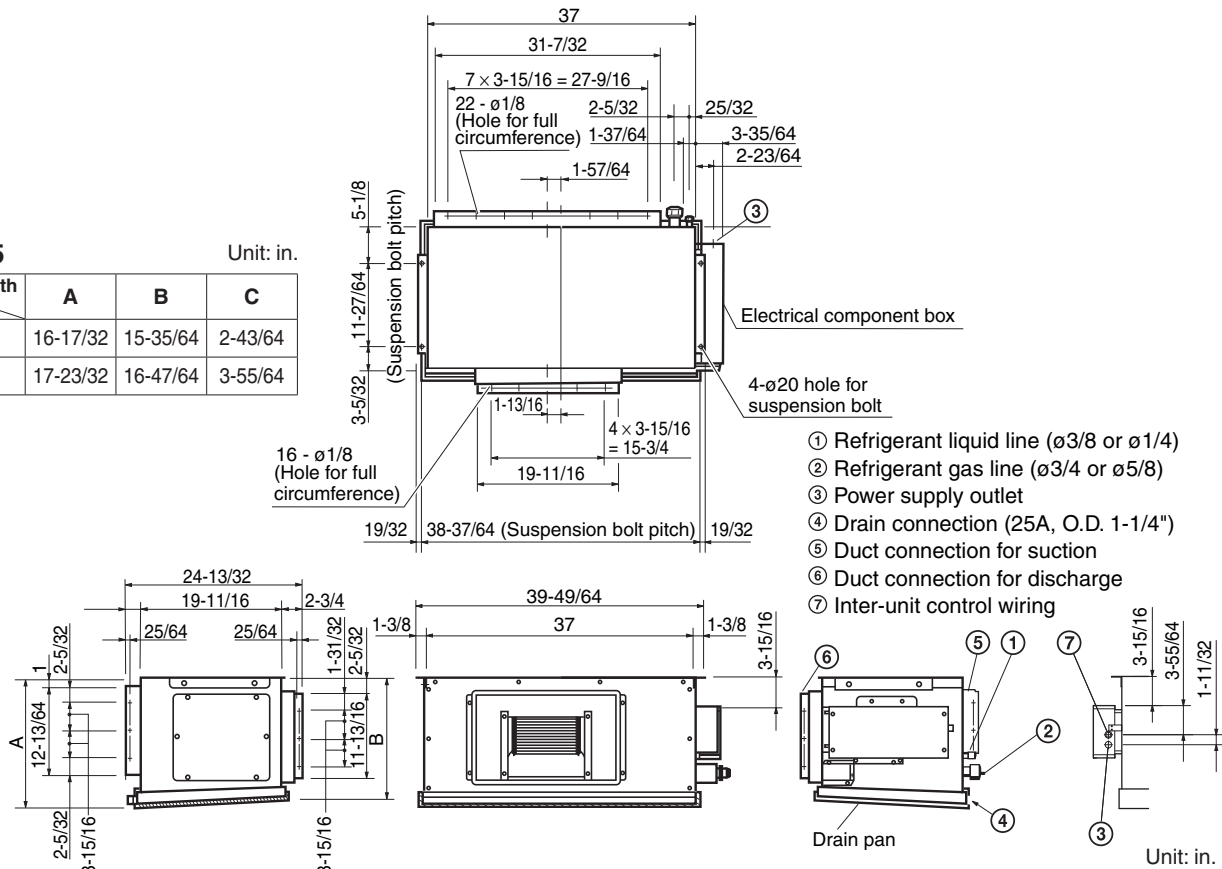

Fig. 3-119
- Fig. 3-119 and Table 3-5 show the detailed dimensions of the indoor unit.